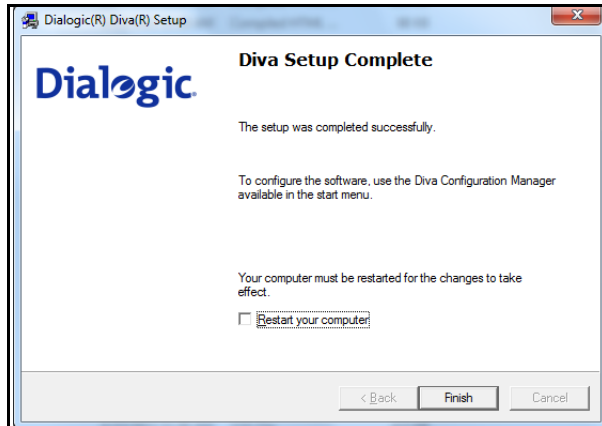

Figure 34: Finish Installation
21. Once Diva setup is complete, the window in Figure 34 below will be shown. Deselect the **Restart Your Computer** option and click on **Finish**.